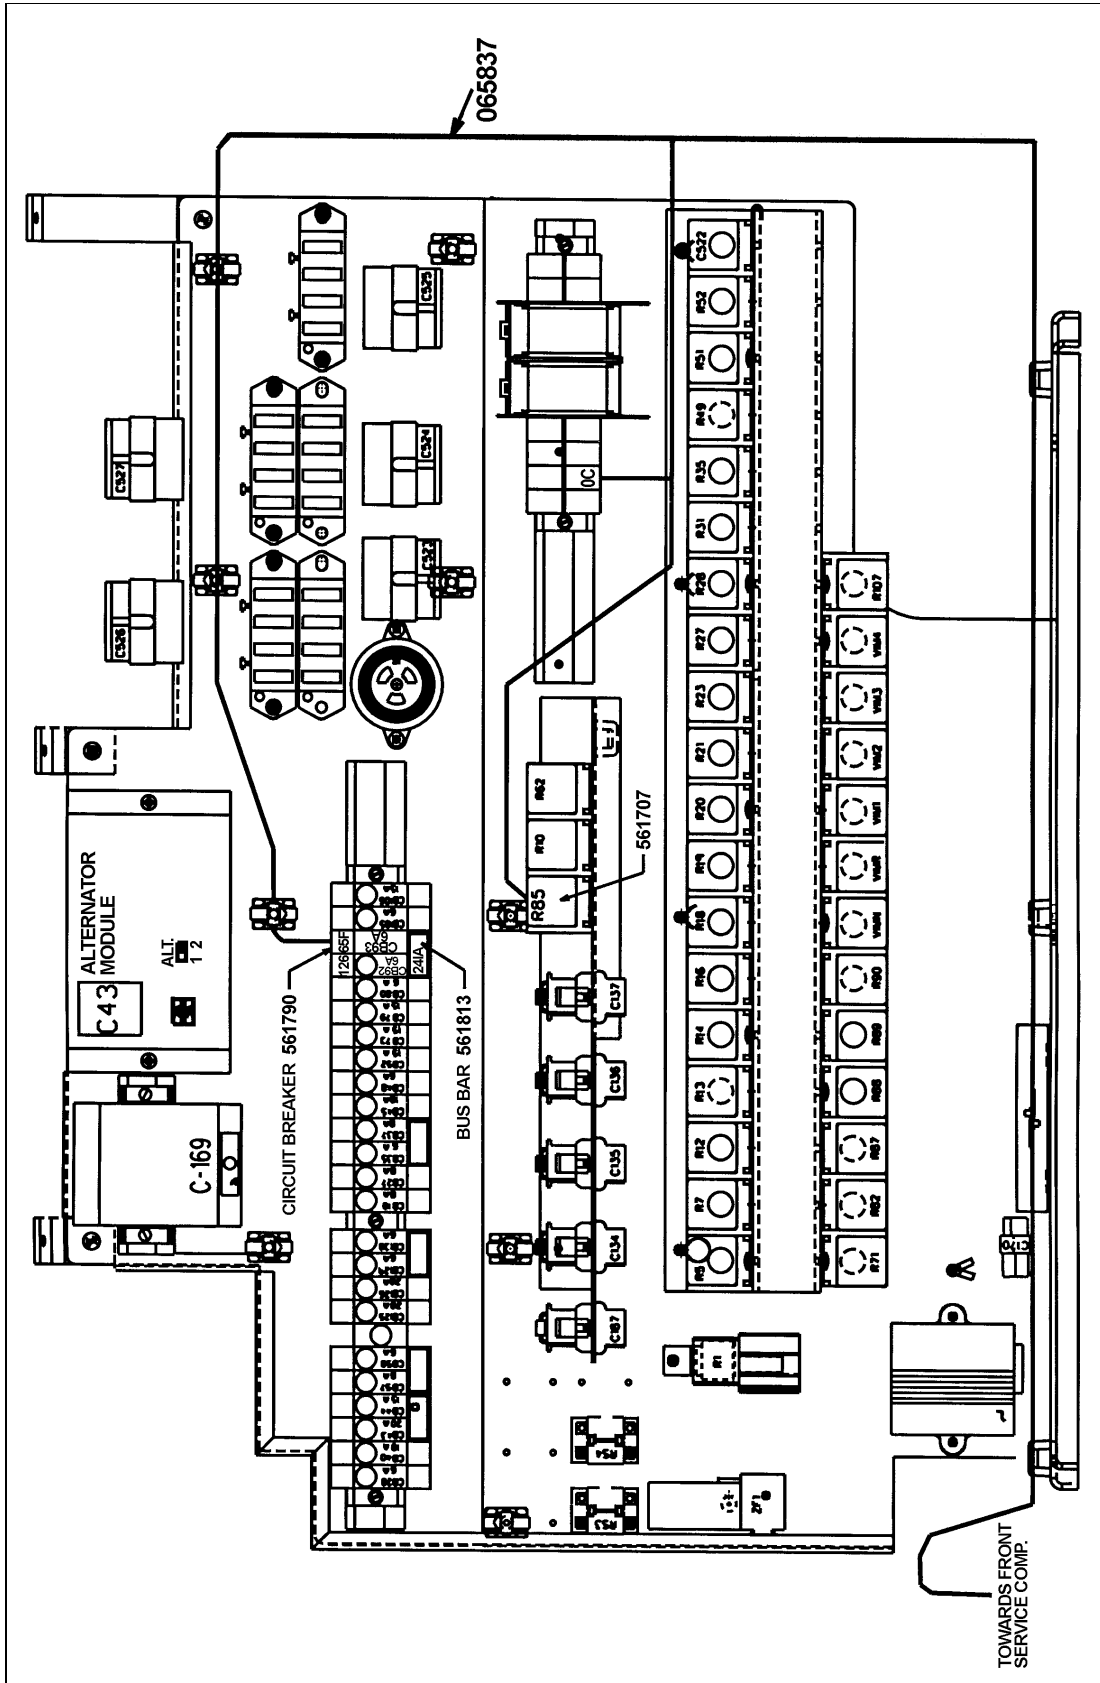

FIGURE 4
2. Crimp or solder wire 65D of cable harness (065837) with wire 65D of connector C11 pos. 17.
6. Fix base of relay R85 then install 24V relay equipped with a diode (561707) as per figure 4.